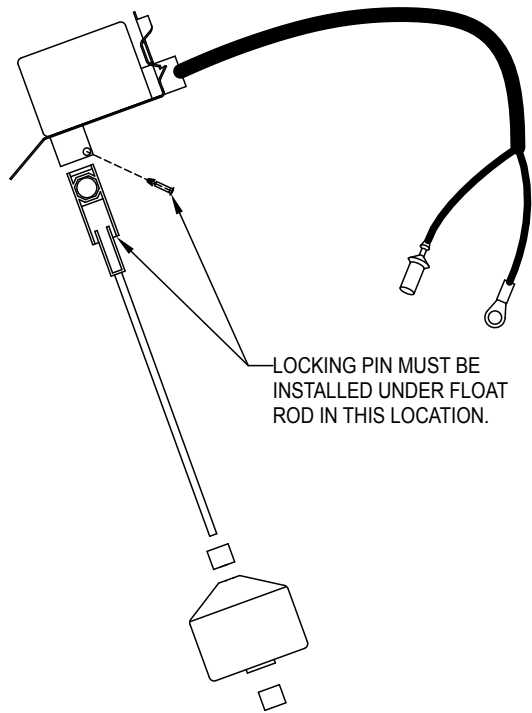

FIGURE 5
- Assemble the float assembly per figure 5.